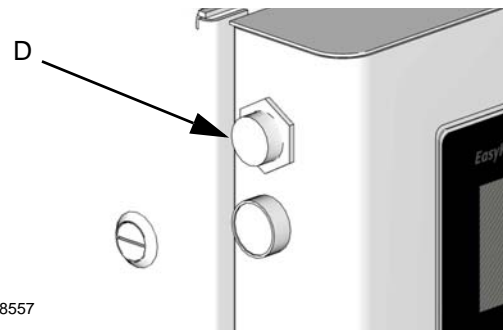
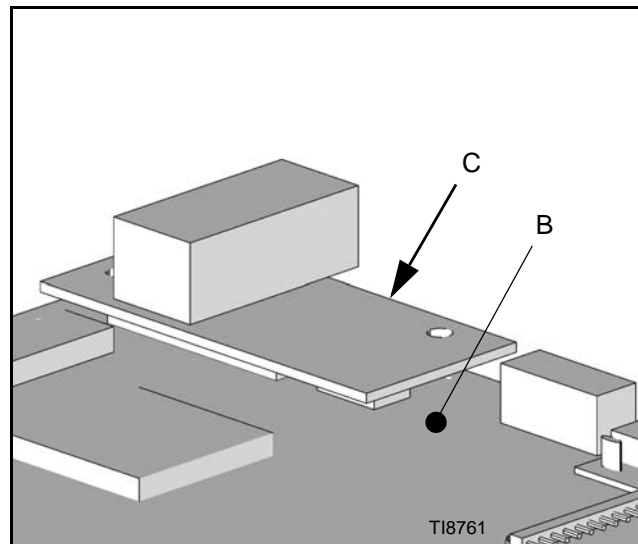
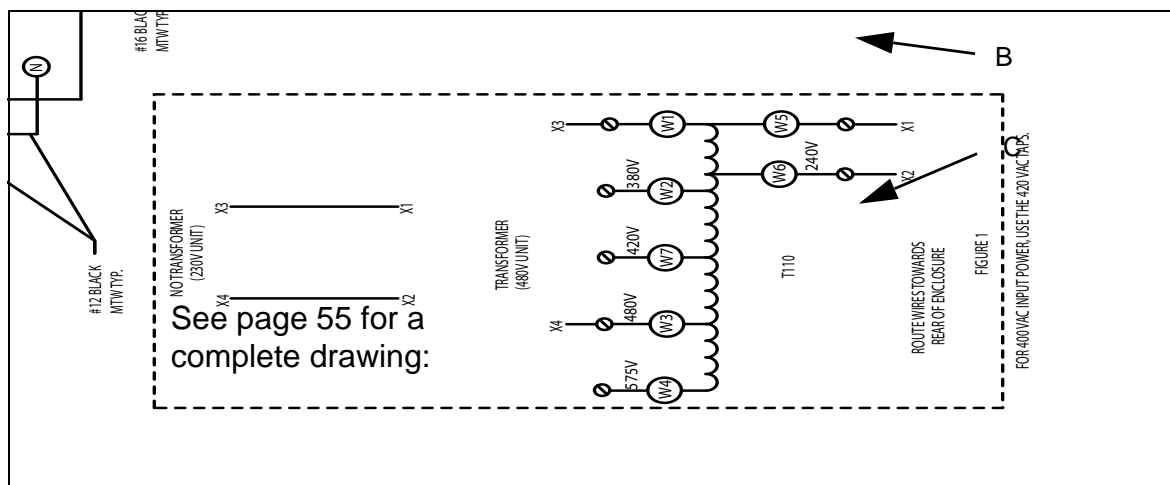

FIG. 40 RJ45 Bulkhead Connector Installation
FIG. 42
FIG. 43
5. Plug the Ethernet Assembly 249183 (C) into J9 making sure the RJ45 connector is oriented down. See FIG. 42 and FIG. 43.
6. Secure the Ethernet Assembly 249183 (C) to the EasyKey Display 249480 (B) using the hardware provided.
7. Remove plug (D) covering Ethernet opening at the upper right corner of the Control Panel. See FIG. 40.
9. Connect one end of the Ethernet cable to Ethernet Assembly 249183 (C).